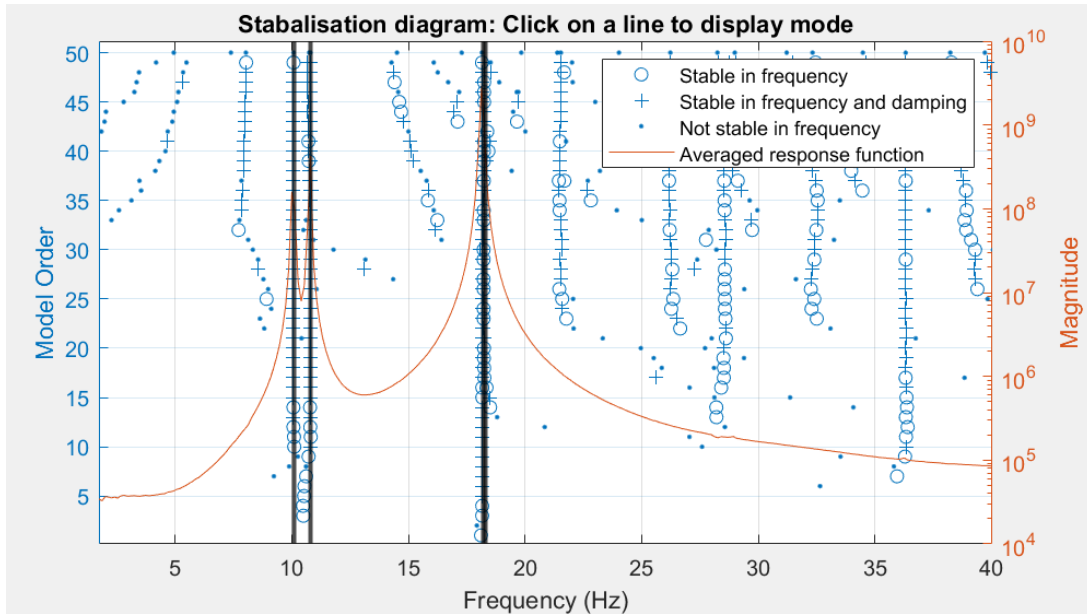

Figure 6: Stabilisation diagram appearing on clicking 'Run'
- 3) Once a satisfactory fit is obtained with the range of interest, click ‘Run’ and follow the process described in section 2.4. For the current case, with the tuning parameters set in stage (2), the first three modes can be identified as show in **Figure 6**. The identified modes may be recorded and saved. Repeat 2-3 if other individual or sets of peaks from different frequency ranges are of interest.
On clicking this button, the window shown in **Figure 6** will appear. This is known as a stabilisation diagram, indication a measure of the acceptability of the solutions generated by the methods used by *modalfit()*.